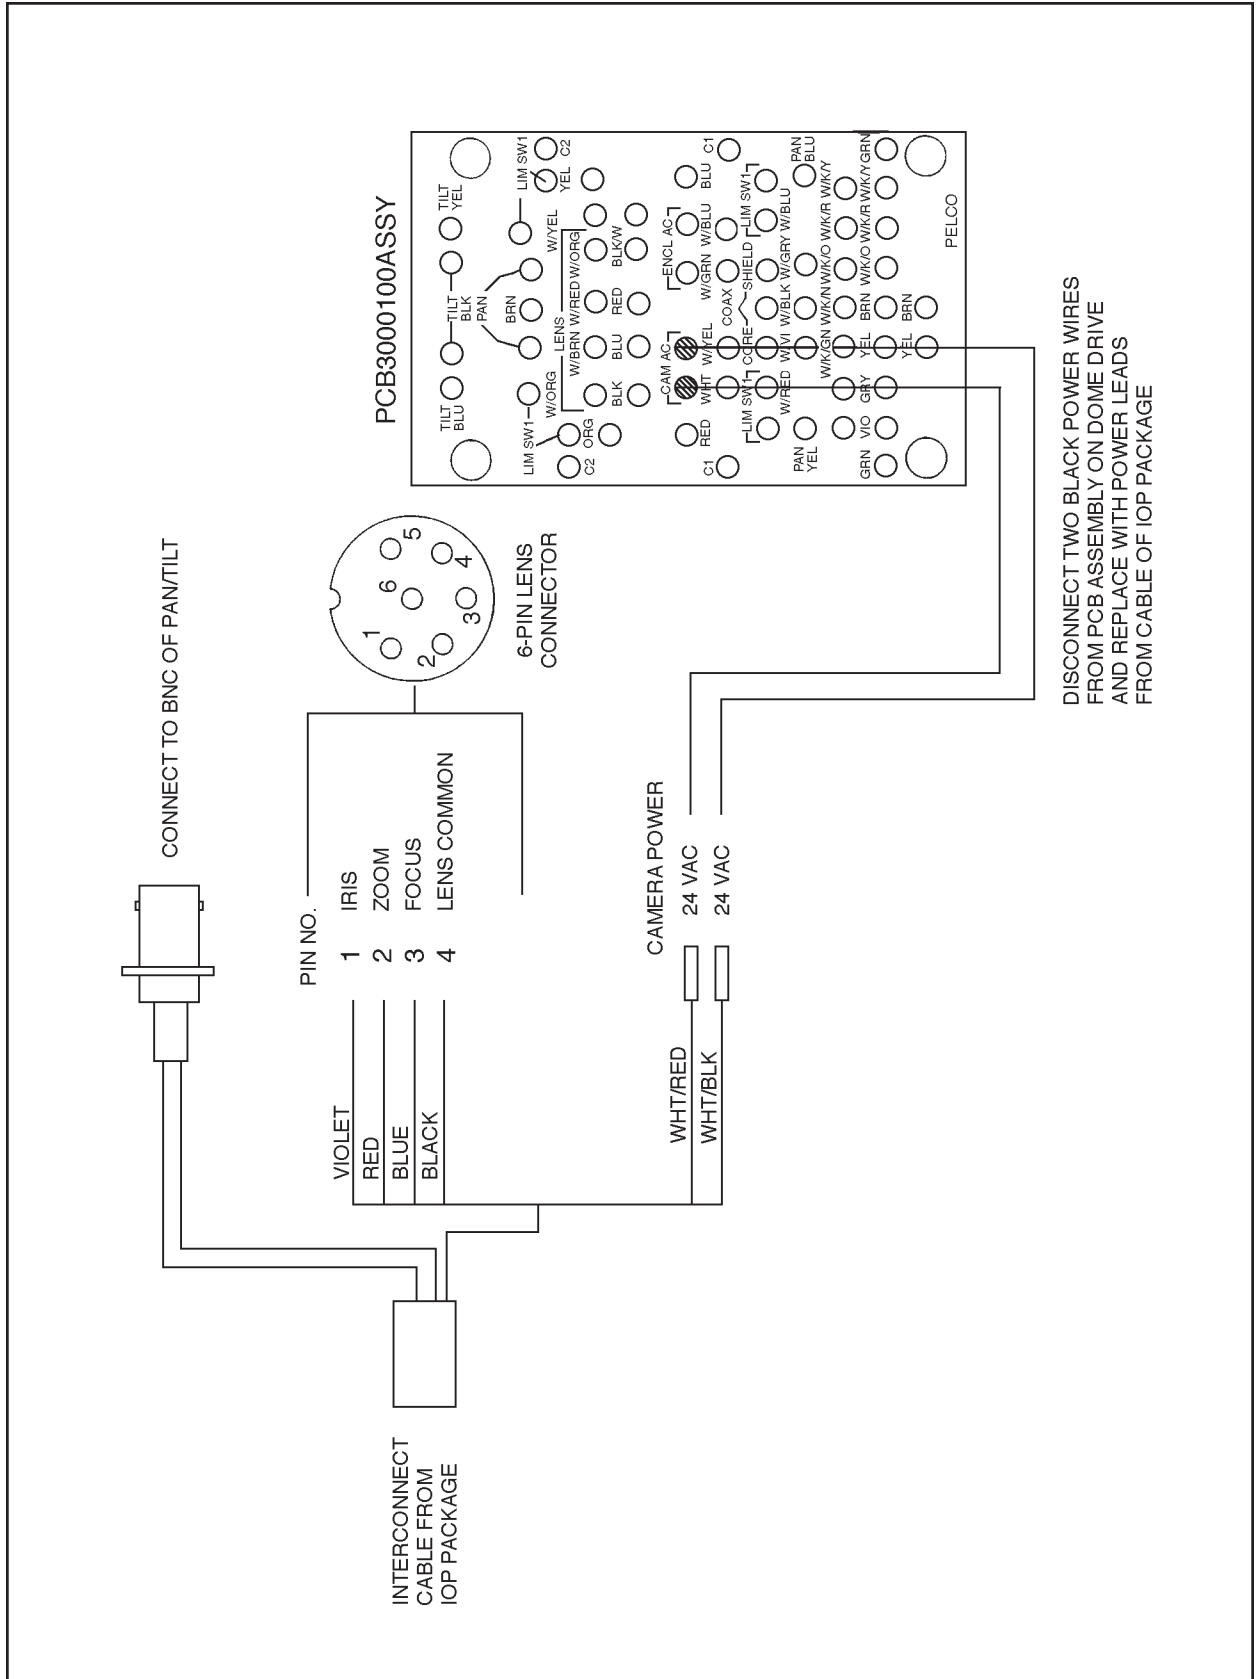

Figure 2. Wiring Diagram for SB1900 Dome and IOP Package
4. Refer to Figure 2 and make the electrical connections.